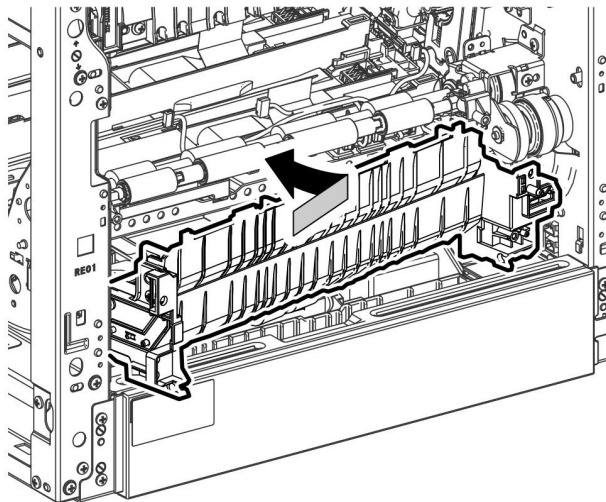

Figure 5 Observe Angle When Installing Feeder
9. Refer to Figure 5 to remove the four screws (silver, M4x6mm) attaching the Registration Chute Feeder Assembly and remove the feeder.